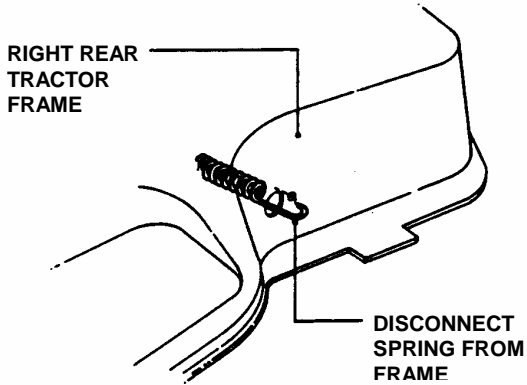

FIGURE 4.26
- Disconnect traction belt idler pulley spring from tractor frame. See Figure 4.26.